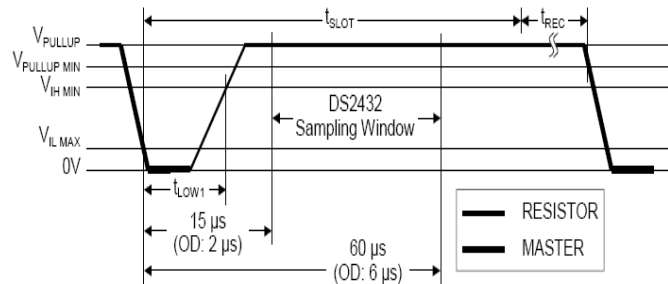

Fig4-99 - Wrote-one Time Slot
B. Write 1: If the sampling is high, 1 is generated (Note: Read 1 is of a similar waveform pattern) as in Fig4-99: